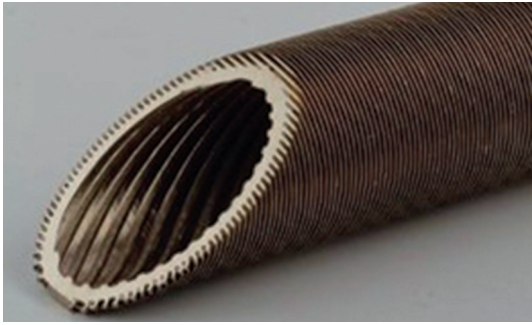

Fig. 2. Dual enhanced low-fin tube. Image courtesy of NEOTISS.
- The dual enhanced tube (Fig. 2) has the best design - smallest size and the lowest weight, 800 mm shell diameter (column C)